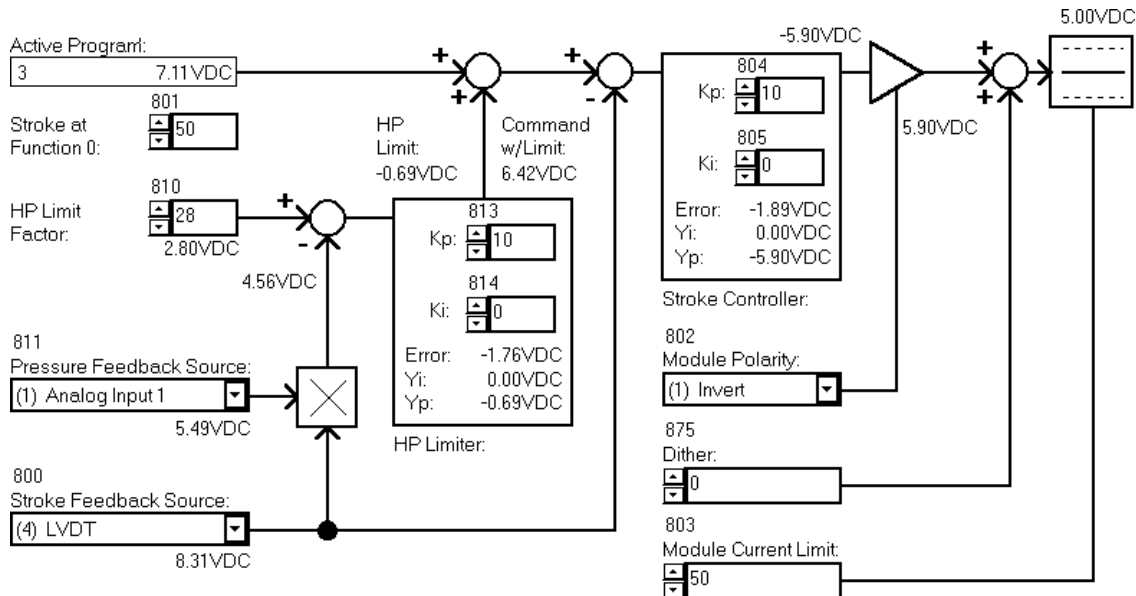

Figure 13: Pump Controller Configuration
Figure 13 shows the Pump Controller Module Form. The Diagnostic screen shows that Program 3 is active and passes the command of 7.11V to the Pump Controller. The Function Zero Stroke is set to 50% (program item 801=50), so if no program was active a neutral stroke would be the Pump Controller command signal.